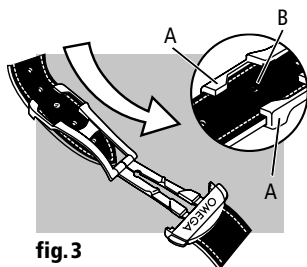

fig.3
Adjusting the length (fig. 3): free the longer section from the two slideways (A) and from the catch (B). Adjust the bracelet in the required direction and reinsert in the catch and the two slideways. Try the watch for size and readjust if necessary.
Adjusting the length of the bracelet (fig. 3): lift the locking tab to release the strap end. Slide the strap to your desired length and lock it in position with the locking tab until it clicks.
Adjusting the length of the bracelet (fig. 3): open the clasp to free the longer section from the catch. Adjust the bracelet in the required direction and reinsert in the catch. Try the watch for size and readjust if necessary.